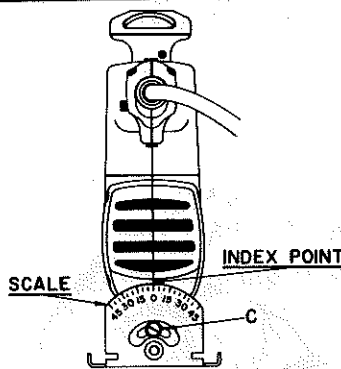

Fig. 4
The cutting angle may be adjusted from zero to 45 degrees right or left. Loosen the base pivot screw (C) until base can be moved. Adjust base until index point (See Figure 4) is in line with required angle on scale, then tighten base pivot screw. The scroller mechanism must be locked in place with the cutting edge of blade facing the front or rear of tool when making angle cuts.